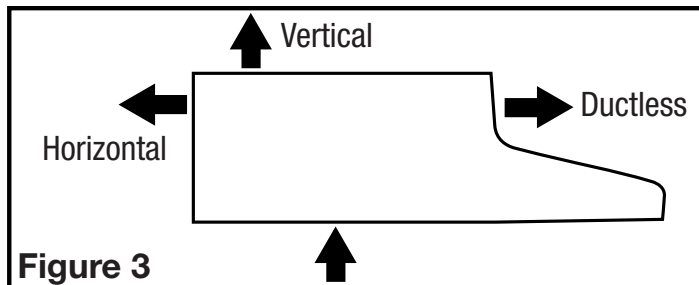

Figure 3
- Choose the type of ducting you will require. This model is equipped to vent either Vertically or Horizontally through a 3-1/4" x 10" duct. It can be modified to be ductless (re-circulates the air back into the kitchen) with the addition of a model RF55 combination grease/charcoal filter (not included) or vented through a 7" round duct with the addition of a model E-22a or RDC7 Duct Collar (not included) (**Figure 3**).